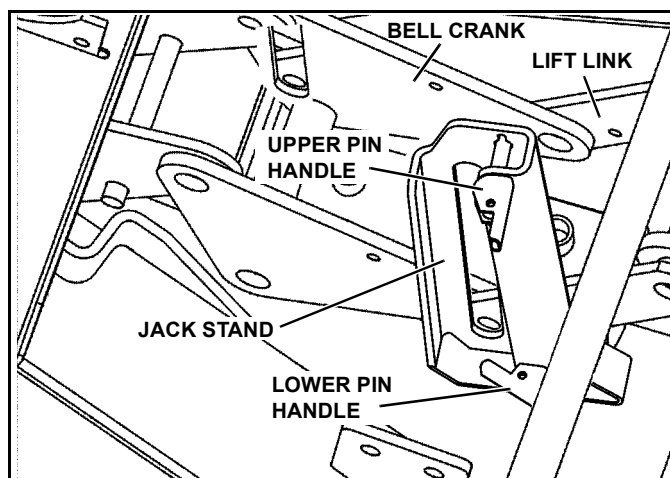

Figure 1-12
5. Disengage both jack stand pins by pulling on handles. Raise the jack stand and engage the bottom pin by pushing on the handle. Make sure pin is engaged in hole by rotating jack stand back and forth. (See Figure 1-12).